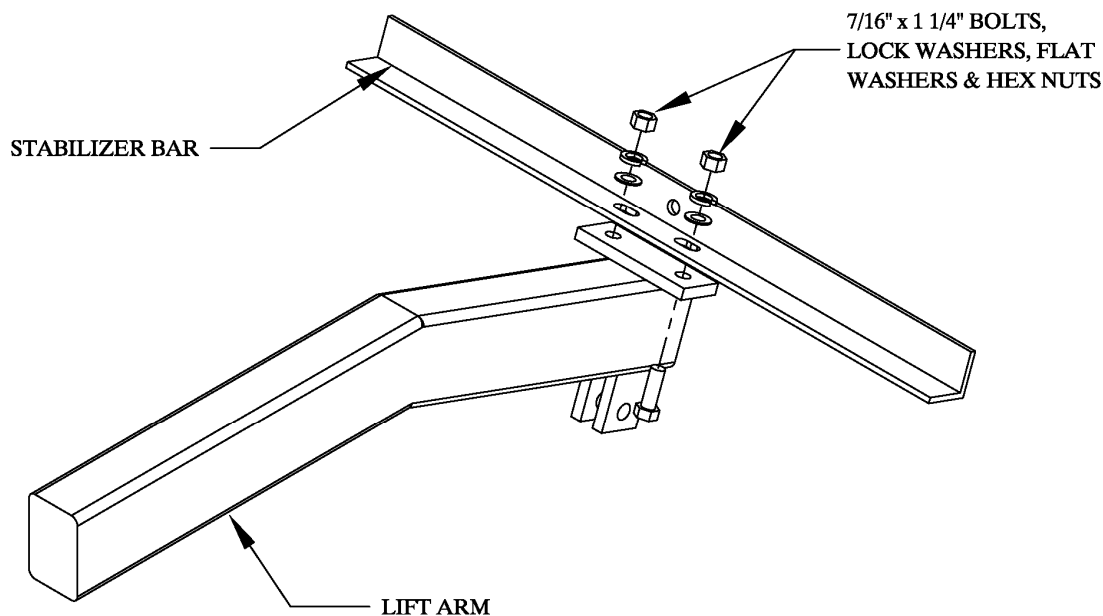

Figure 14
7. Refer to the layout diagrams in appendix C for the locations of the different lengths of stabilizer angles. Bolt the stabilizer angles to the bolt plates near the rear end of the lift arms. Refer to Figure 14. Use 7/16" x 1 1/4" bolts, lock washers, flat washers and hex nuts.